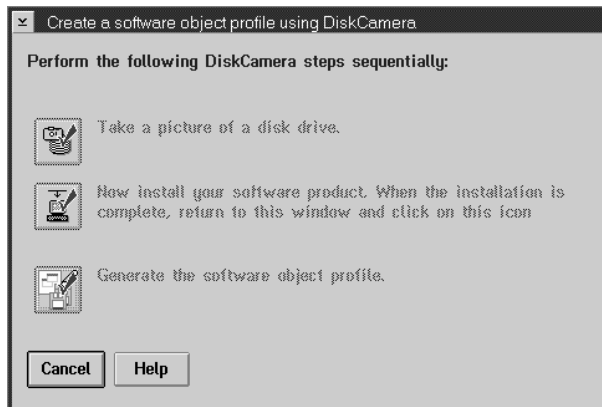

Figure 125. Create a software object profile using DiskCamera
- 7 Click on the **OK** push button. The Create a software object profile using DiskCamera window is displayed, as shown in Figure 125.